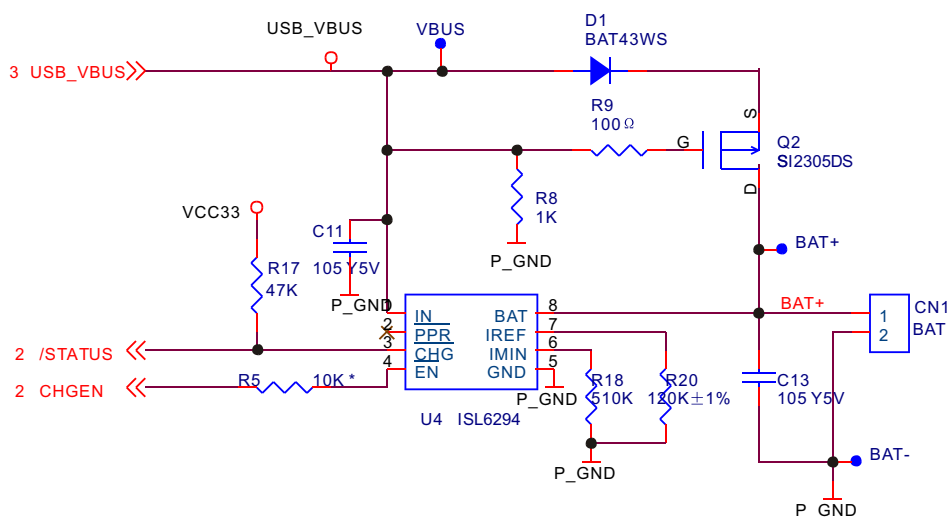

Figure 3.2.6.1 Charge control circuit diagram
1. Charge control circuit fulfills the charge function to lithium-ion battery and circuit diagram is shown in the figure 3.2.6.1: